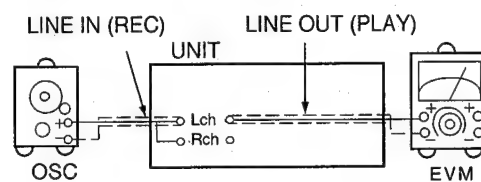

Fig. 5
1. Connect the measuring as shown in Fig. 5. Adjust the frequency of OSC (315Hz).